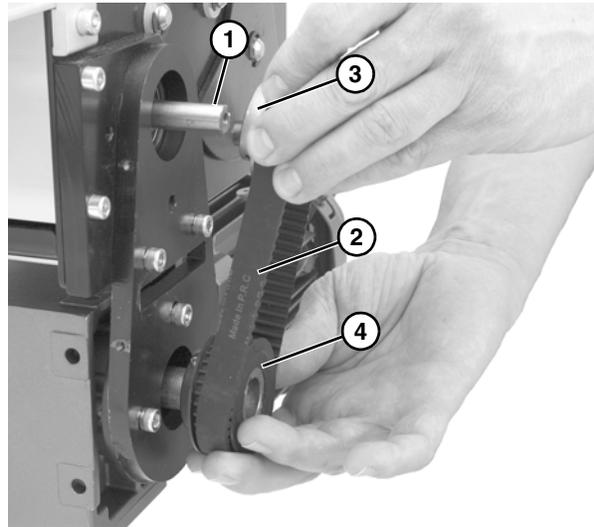

Figure 8
5. Install key (**Figure 8, item 1**).
6. Wrap timing belt (**Figure 8, item 2**) around driven pulley (**Figure 8, item 3**) and drive pulley (**Figure 8, item 4**). Install driven pulley (**Figure 8, item 3**) onto conveyor shaft.